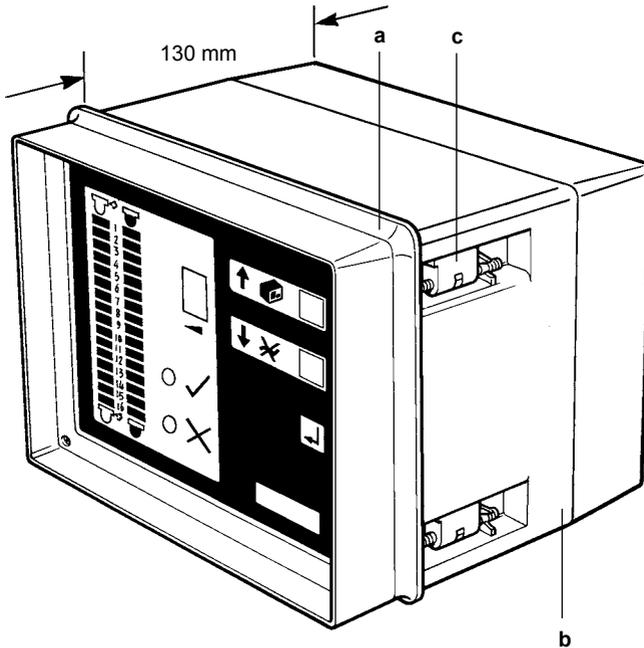

Fig. 5
3.1.2.2 Panel-mounted version (Figure 5)